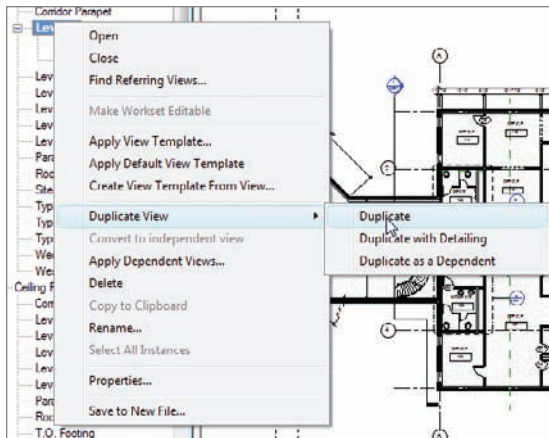

FIGURE 15.20 Duplicating the view
1. Right-click on the Level 1 floor plan view and select Duplicate View > Duplicate, as shown in Figure 15.20.